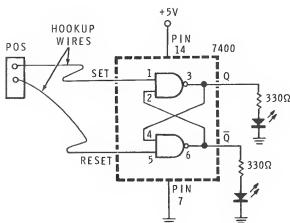

Figure 5-53
1. Turn on your Experimenter and adjust the + voltage control for +5 volts. Now wire the circuit shown in Figure 5-53. Be sure to connect pin 14 to +5 volts and pin 7 to ground.
2. The circuit of Figure 5-53 is a latch flip-flop. It uses two NAND gates. Pin 1 is the set input and pin 5 is the reset input. The LEDs indicate the Q and \bar{Q} outputs. Using the set and reset wires, apply the logic levels designated in the truth table below (1 = +5V and 0 = 0V). Record the output states as indicated by the LEDs in the table.